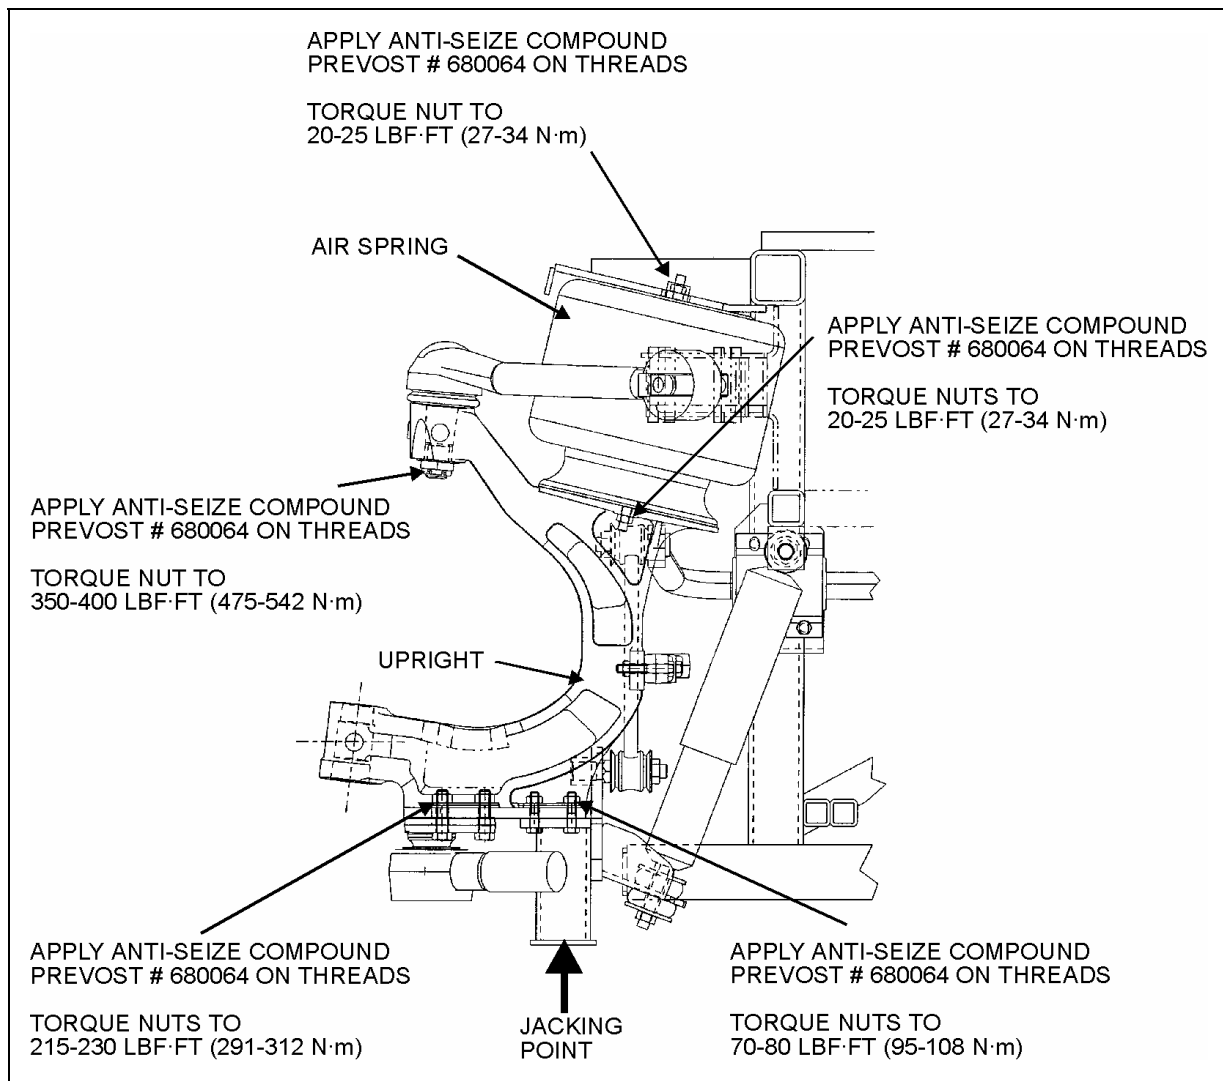

FIGURE 18: AIR SPRING AND SHOCK ABSORBER
3. Support the assembly with a suitable jack. See figure 18 for jacking point.
5. Install the shock absorber as shown in figure 18 with the mounting stud protruding through the hole in the mounting bracket and the shock absorber eyes over the mounting pins. Install the outer washer.